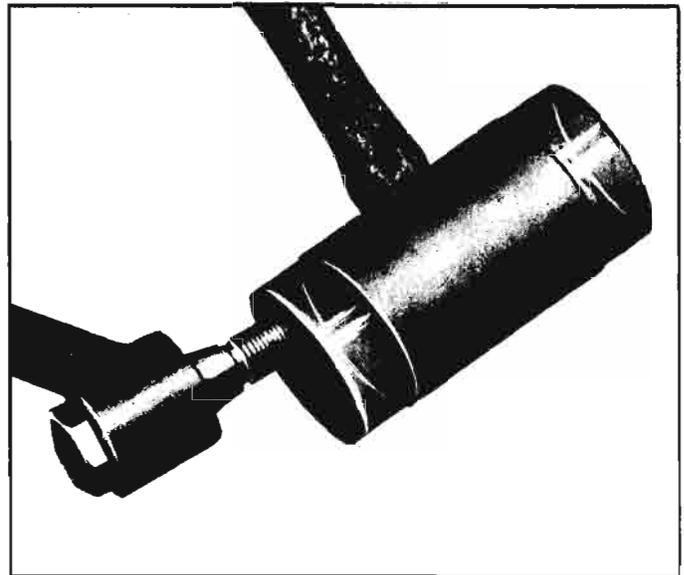

Fig. 4-29—Removing Pivot Bolt
1. Use soft hammer to drive bolt out of bushing (fig. 4-29).